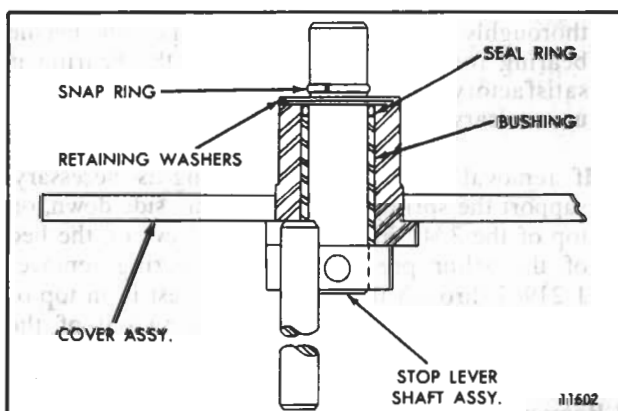

Fig. 4 - Cross Section of Governor Cover Assembly
1. Disassemble the governor cover (Fig. 4) as follows: